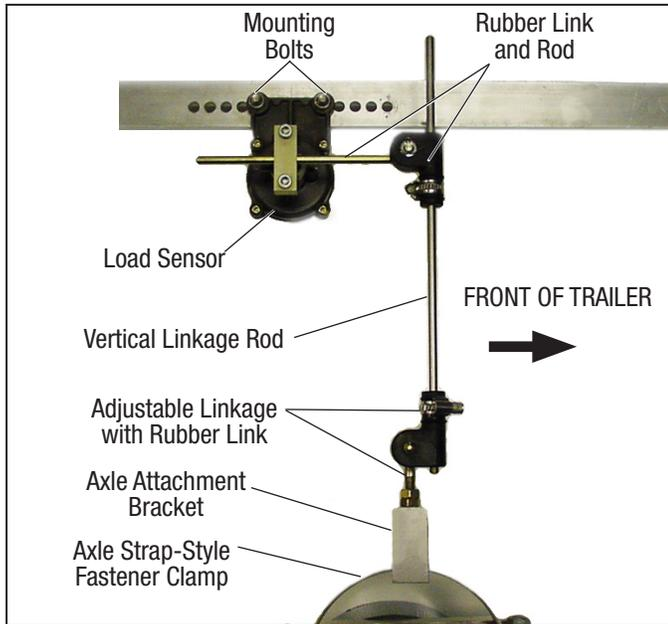

Figure 3 – Typical External Load Sensor Installation
- **External Load Sensor:** For spring suspension systems, an external electrical spring deflection sensor is installed – typically as close to the center (± 5 inches) as possible of an axle with linkage attached to the center of the axle (but *MUST NOT* be installed on a lift-axle), See *Figure 3*. Vehicles with a mechanical load sensor have the port (P42) used for sensing the air suspension system plugged.
Load Sensor: See *Figure 3*. If a trailer is equipped with an external electrical spring deflection sensor, a linkage is attached to an axle (but must not be installed on a lift-axle) – within 5 (five) inches of the center of the axle – connects to a load sensor attached to the chassis of the vehicle. The output from the sensor is an electrical signal that is proportional to the spring deflection. The connection to the ECU is via the auxiliary 12-pin or 2.4 connector.